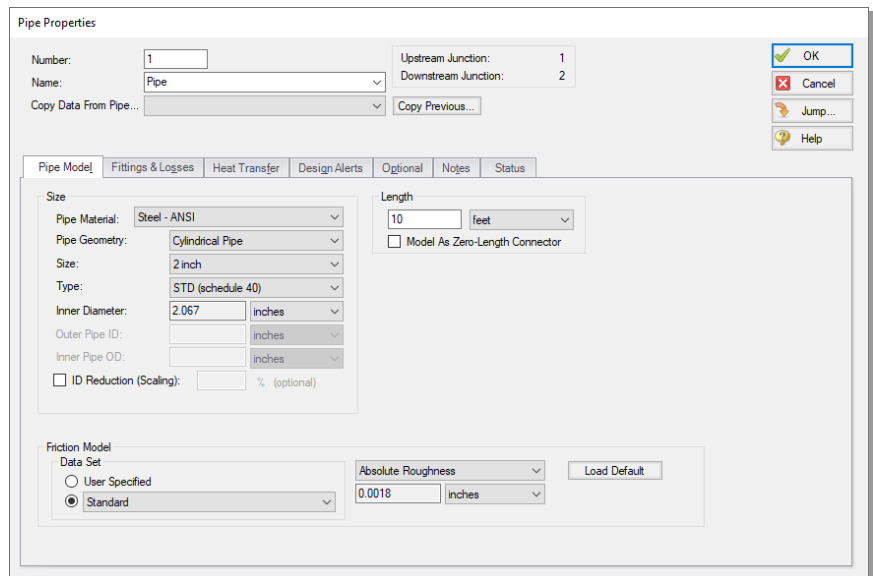

Figure 2.11 Properties window for Pipe P1
- **First, open the Pipe Properties window for Pipe P1.** For Pipe P1 choose Steel - ANSI, 2 inch, STD (schedule 40), Standard friction model, and a length of 10 feet (Figure 2.11).